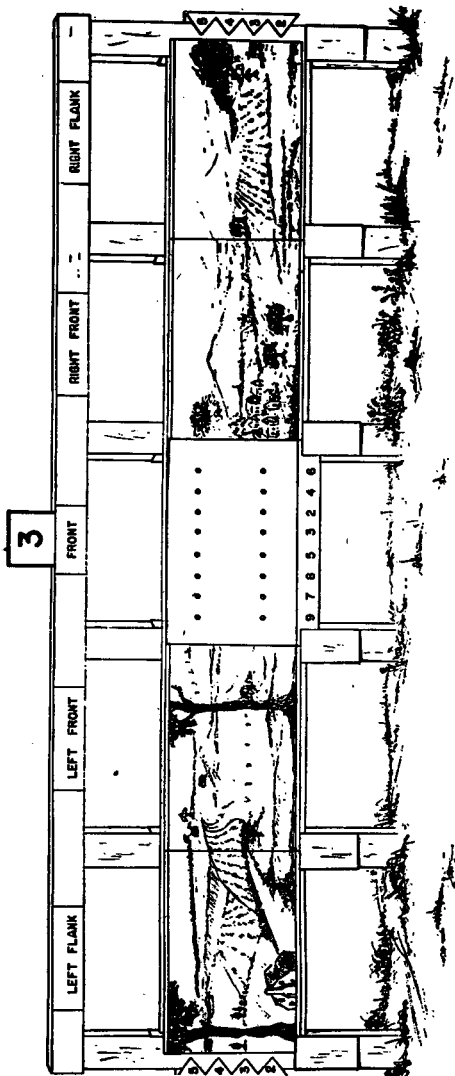

Figure 114. A landscape target.
b. Range Indicators. To designate the targets, assumed ranges are used on landscape targets. Small cards painted with appropriate numbers representing yards of range are tacked along one or both edges of a series of panels (fig. 114). The firer must remember that the range announced is a simulated range designation and that the zero sight setting on his rifle must not be changed.
c. Direction Indicators. To provide the direction element in oral fire commands, small cards on which are painted "front," "right front," "left front," "right flank," "left flank" are tacked above the appropriate panels of the landscape series (fig. 114).
a. Rifles used in landscape target firing exercises are zeroed for 1,000 inches. A blank target with a row of eight 1-inch-square black pasters is used for this purpose. The black pasters are placed 6 inches from, and parallel to, the bottom of the blank panel (fig. 114). Beneath the zero-